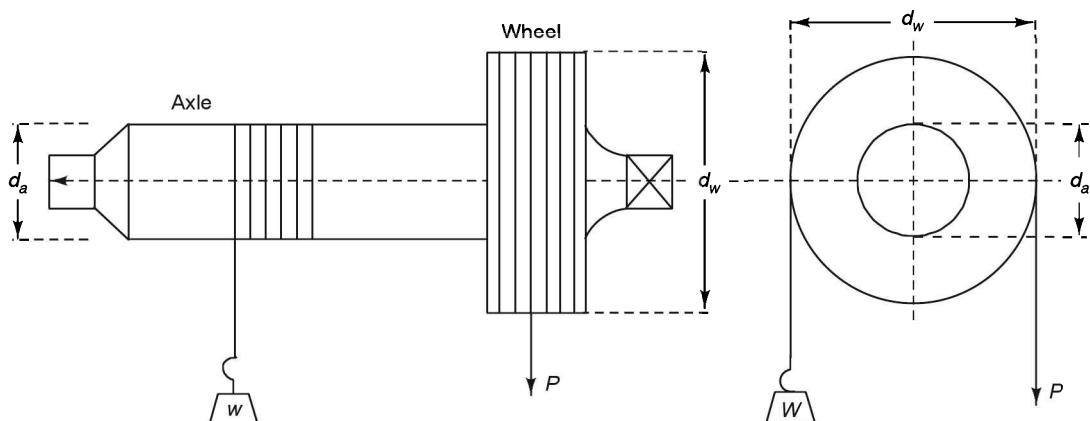

FIGURE 7.45 Wheel and axle.
The machine consists of an axle having the smaller diameter (d_a) and a wheel having the bigger diameter (d_w) which are coaxially jointed and mounted on a bearing as shown in Figure 7.45. The axle and wheel rotate as one piece. A rope is wound round the wheel whose one end is fixed to the wheel itself and other end is used for the application of the effort (P). Another rope is wound on the axle in an opposite direction to the wheel such that when the rope on the wheel unwinds, the rope of the axle winds. The other end of the